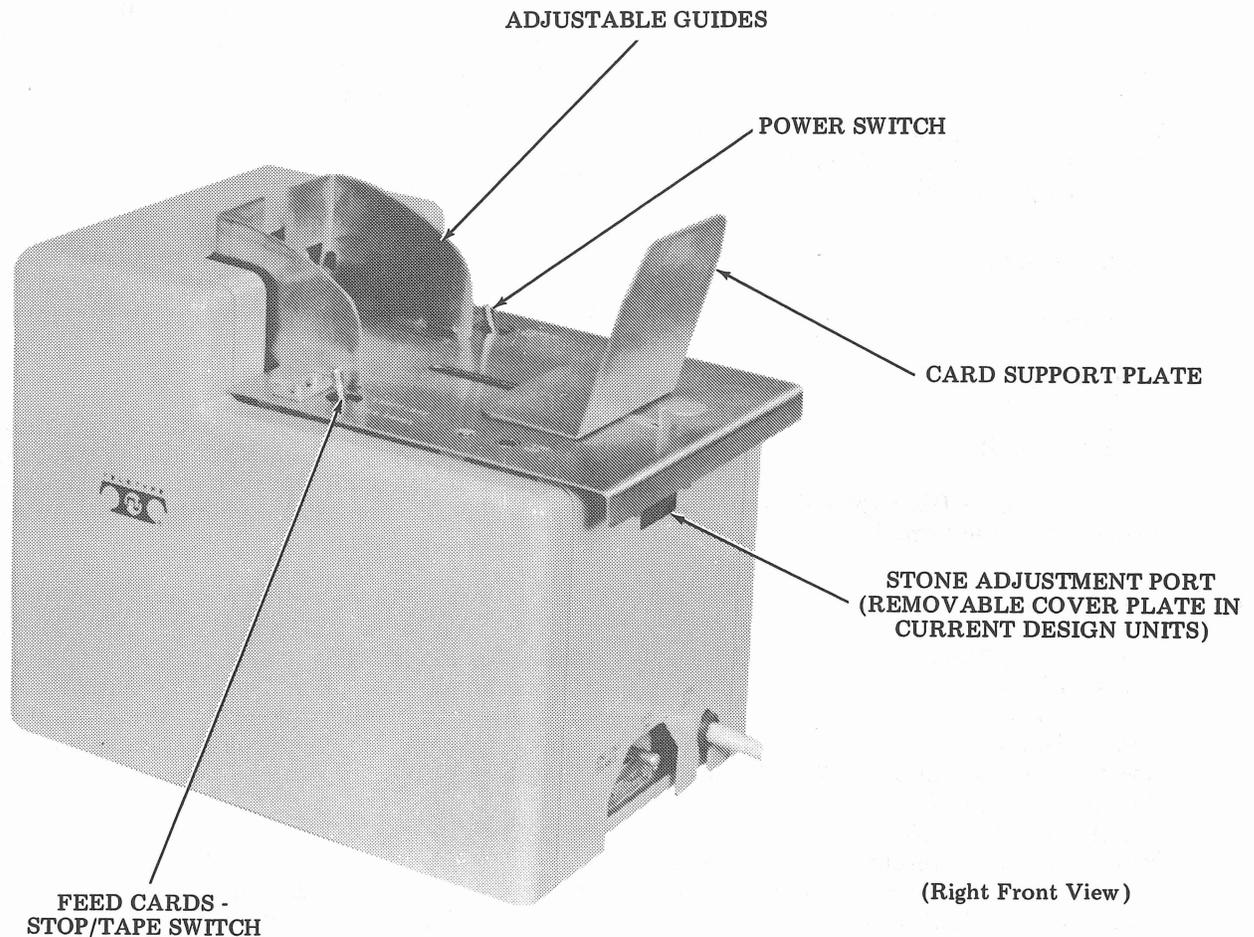

Figure 2 - 35 Edge Punched Card Feeder
2.02 The adjustable side guides, mounted on the top plate, locate the cards with respect to the separator stones in the feed mechanism. An adjustable card support plate is positioned to place the cards into the proper angular attitude with the separator stones (Figure 2). A TP343726 bracket is available as an additional card support.
2.05 A 25-point connector J-1 is mounted on the right side of the feeder and is accessible through an opening in the cover. Power is supplied to the feeder motor and control circuits through a separate line cord (Figure 2).
2.06 The two manual controls provided for the use of the operator are the POWER ON switch and the FEED CARDS - STOP/TAPE switch (Figure 2).
- 3.05 An adjustable plate attached to the top plate is the adjustable card support plate (Figure 2). The trailing edge of the card stack contacts this plate. Thus, the cards are kept in contact with the separator stones and the rubber tire on the feed roller spindle assembly (Figure 3).
3.15 The manual controls consist of POWER ON switch and FEED CARDS - STOP/TAPE switch (Figure 2). Current design units include a sync switch on the right end and a sync indicator lamp on the top plate. The switch and lamp are operative only in installations that require synchronization between the card reader and an associated reperforator.